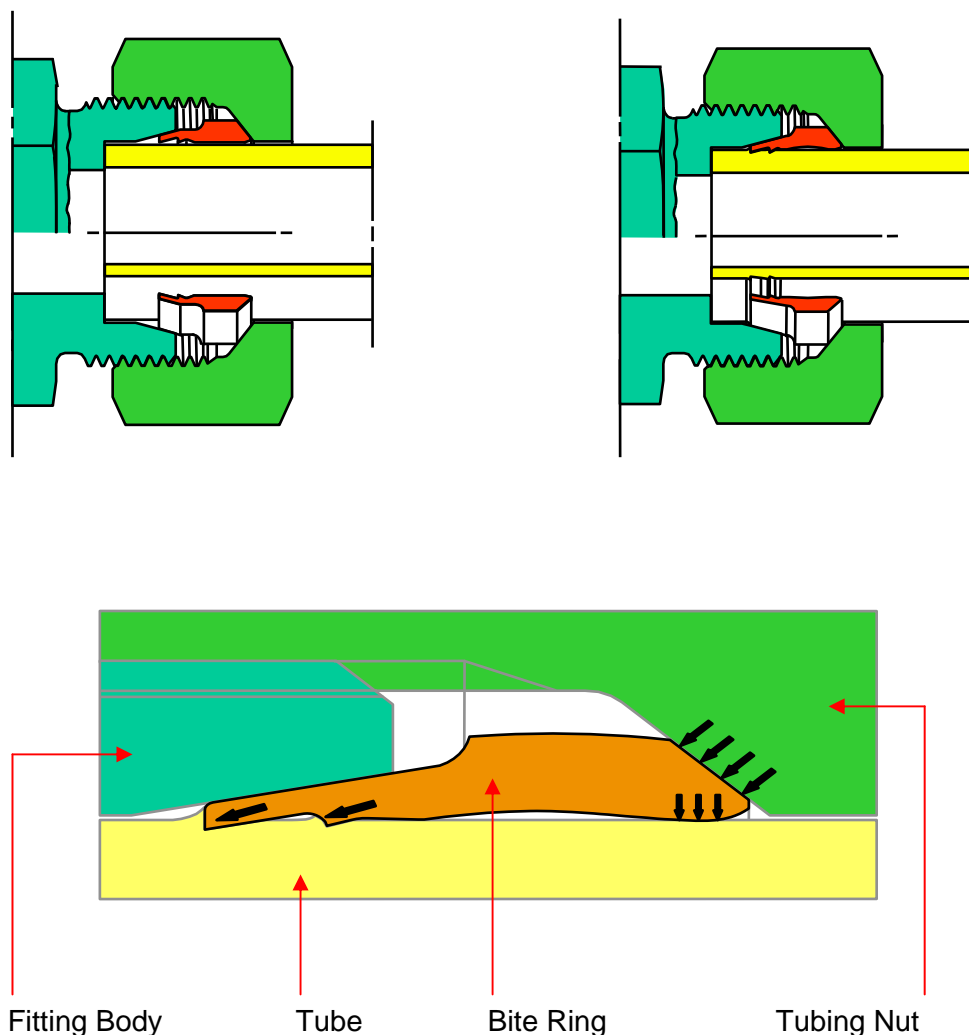

Figure 3.3.1.1 – Deutsches Institut für Normung (DIN) 24° bite ring arrangement. Top images showing the unassembled (left) and assembled (right) conditions.
This tube fitting connection is known as a bite type fitting. The reason for this is that the hardened steel ring (shown in brown in figure 3.3.1.1) is forced to bite down into the steel tube during assembly. This is what enables the tube to be retained in the fitting body. Sealing between the bite ring and the fitting body is achieved at the surface to surface contact point between the inner angle of the fitting and the outer angled edge of the bite ring. The ring therefore serves two functions; (1) tube retention, (2) tube/fitting sealing. The included angle of the sealing face on the fitting is 24° .